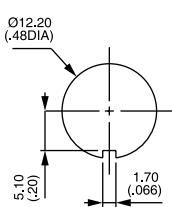

Figure 2
- For SEALED mounting (panel cut-out fig. 2) : 4 mm (.157) max.